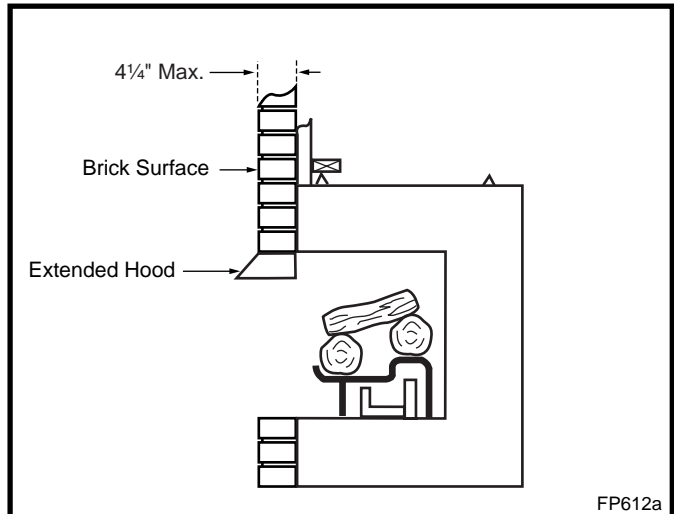

Fig. 16 Side view of firebox with extended hood.
A hood is furnished with the firebox. Optional hoods listed on Page 12 may be installed as shown in Figures 16 and 17. Failure to do so may create a fire hazard.
**WARNING:** When the black surround is covered by a brick surface, (Figure 16), use an extended hood. The hood should extend out to the brick surface (Figures 16 and 17) and be attached to the firebox. The maximum brick to noncombustible surface that may extend out past the black surround surface is 4¼".